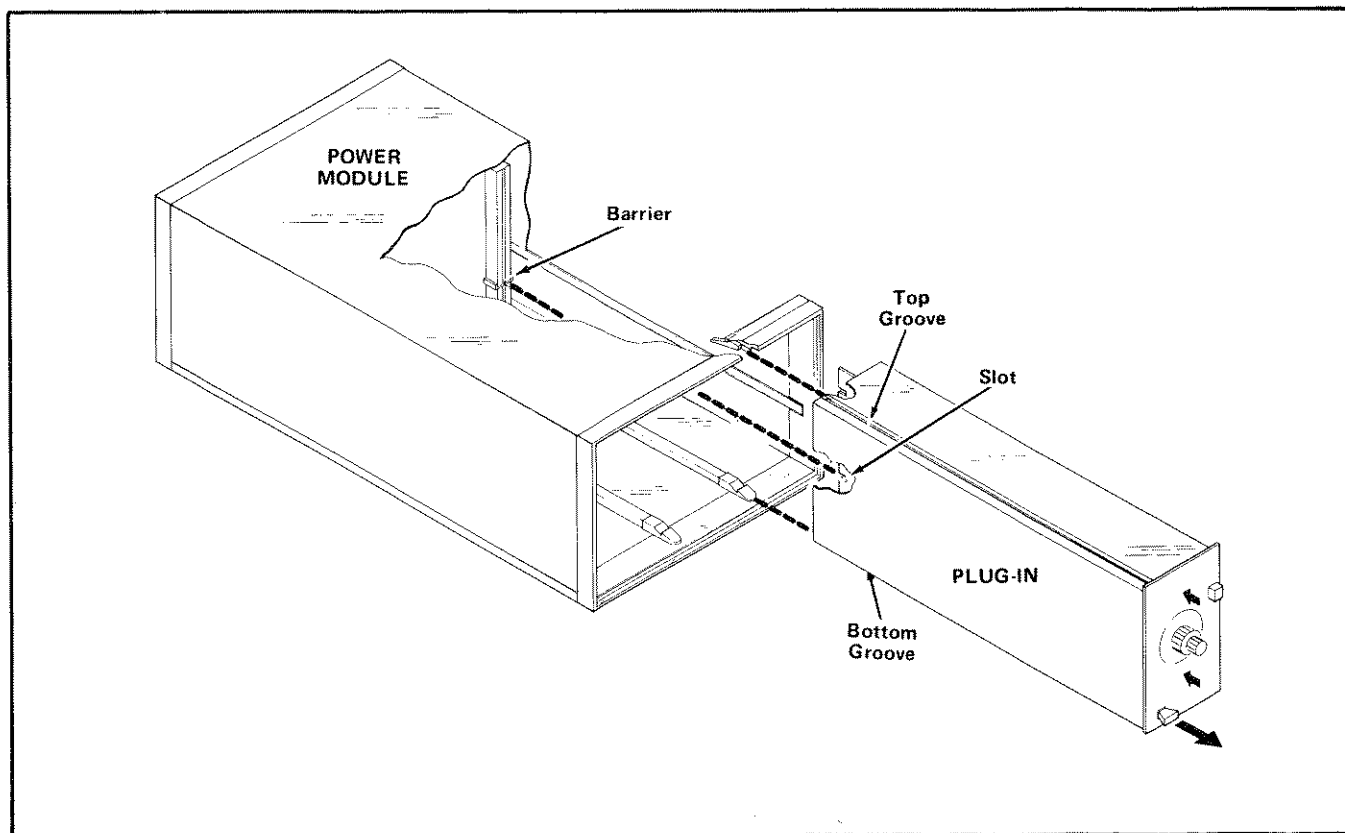

Fig. 1-2. Plug-in module installation/removal.
*Turn the power module off before inserting the plug-in; otherwise, damage may occur to the plug-in circuitry. Because of the high current drawn by the PS 503A, it is also recommended that the power module be turned off before removing the PS 503A. Refer to Fig. 1-2. Check to see that the plastic barriers on the interconnecting jack of the selected power module compartment match the cut-outs in the PS 503A circuit board edge connector.*